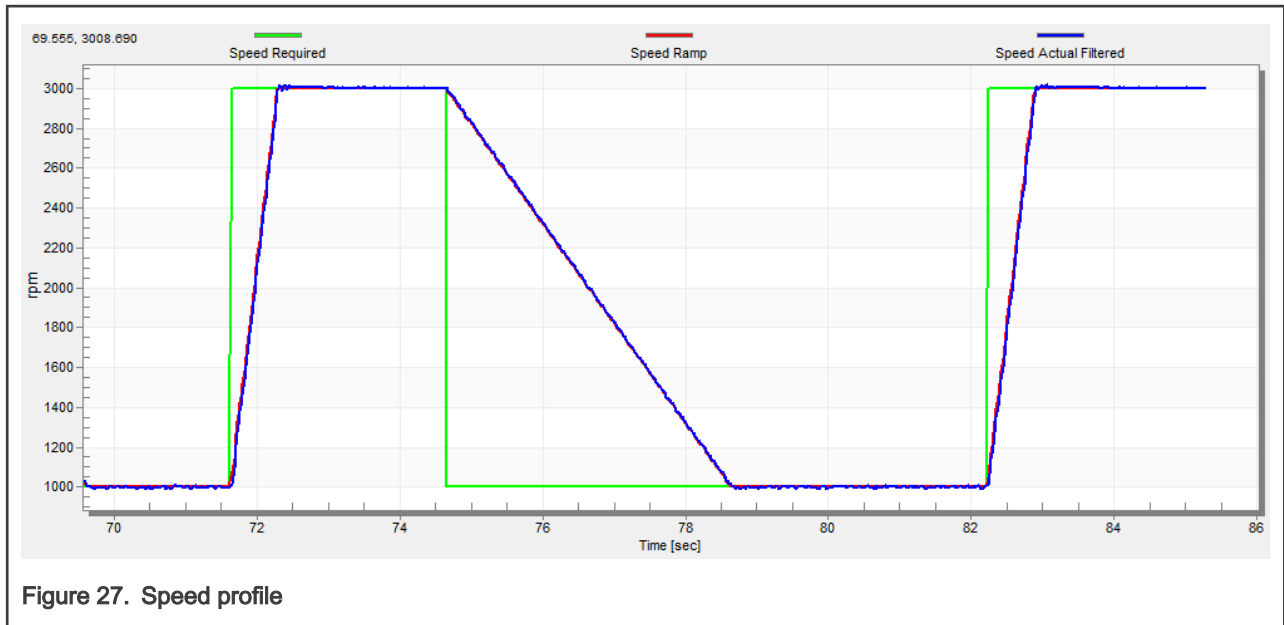

Figure 27. Speed profile
2. The increments are common for the scalar and speed control. The increment fields are in the "Speed loop" tab and accessible in both tuning modes. Clicking the "Update target" button applies the changes to the MCU. An example speed profile is shown in Figure 27. The ramp increment down is set to 500 rpm/sec and the increment up is set to 3000 rpm/sec.